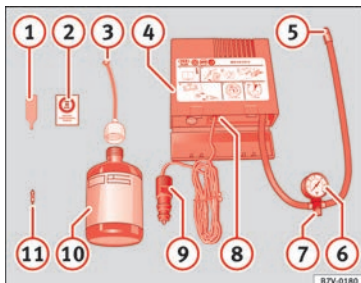

Fig. 79 Standard representation: contents of the anti-puncture kit.
The anti-puncture kit is located underneath the floor covering in the luggage compartment. It includes the following components » Fig. 79:
Screw in the inflator tube » Fig. 79 ⑤ again and check the pressure on the gauge ⑥.